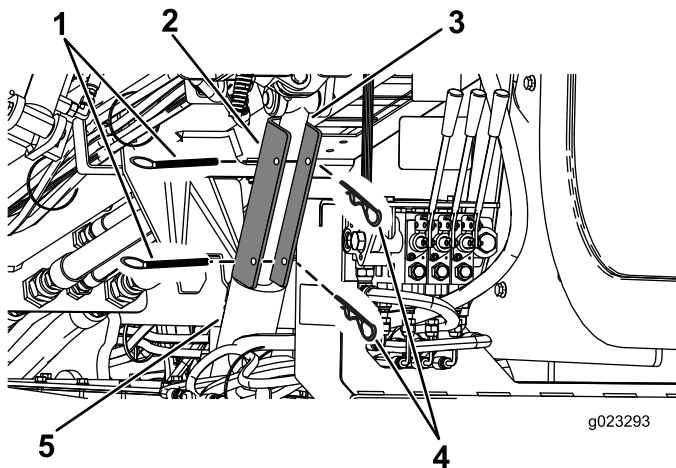

Figure 97
4. Position the cylinder lock over the cylinder rod (Figure 97).
5. Secure the cylinder lock with the cotter pin and clevis pin (Figure 97).
4. Remove the cotter pin and the clevis pin that secure the cylinder lock (Figure 97).